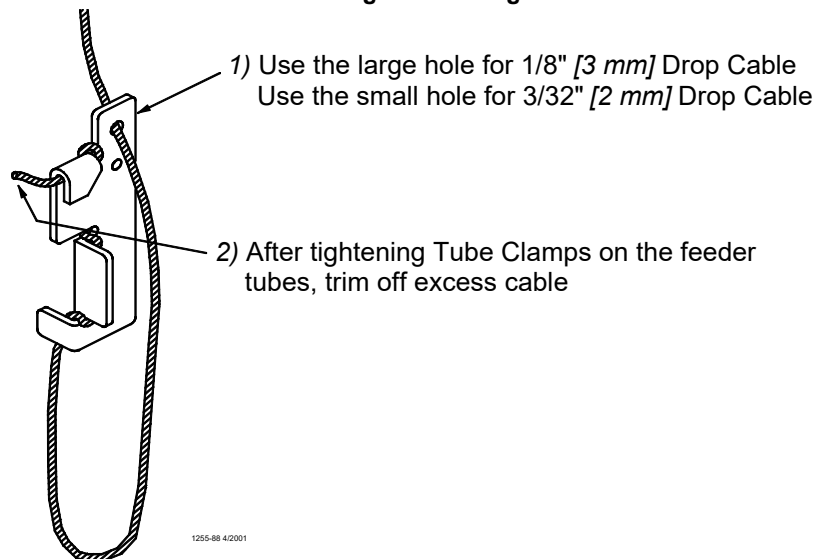

Figure 43. Cable Lock Threading
6. Install Adjustment Leveler within 6" [152 mm] of feeder line. **Figure 43** shows the proper cable routing around the Adjustment Leveler.
Finally, tighten the Tube Clamps on the feeder tubes. Clamp the joints securely, but do not crush the tubes. Re-adjust all Adjustment Levelers as needed and trim off excess cable as shown in **Figure 43**.